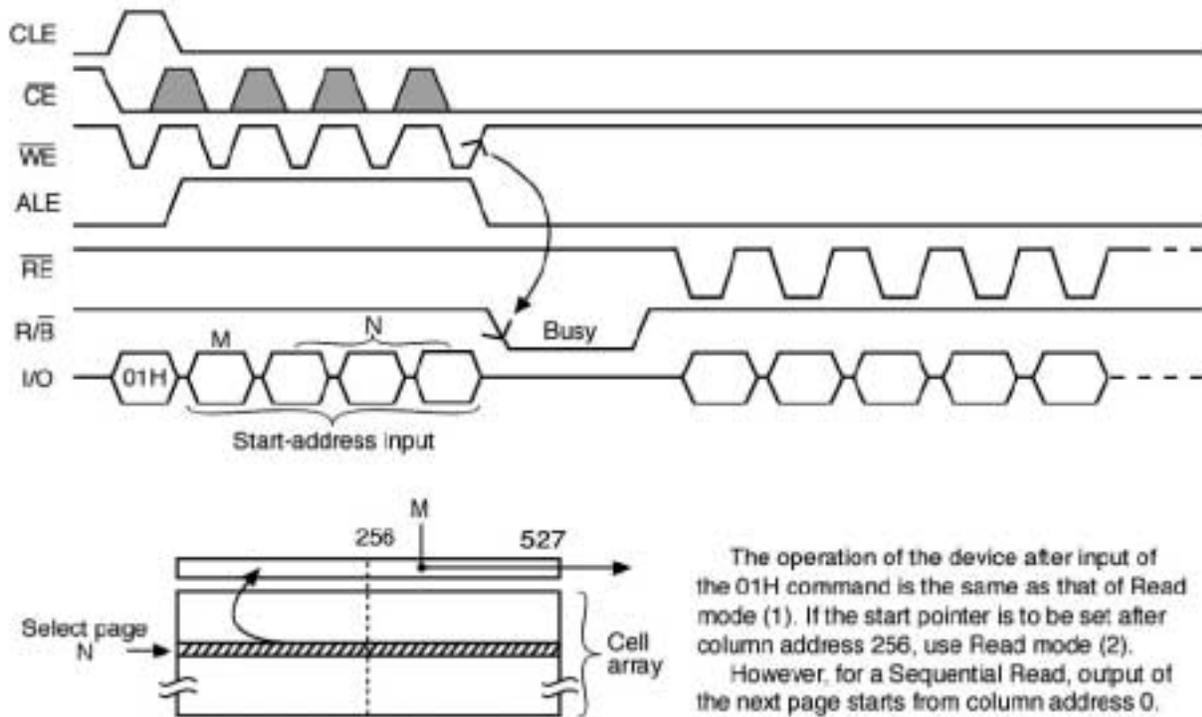

Figure 7. NAND Read Mode (2) Timing
Read mode (2) is set when a 01H command is issued to the Command register. The three-byte address N, gives the page to be read and the 1-byte pointer M gives the offset into the page. In read mode (2), the offset is into the second half of the page, byte 256-511. Refer to Figure 7 below for timing details and the block diagram.